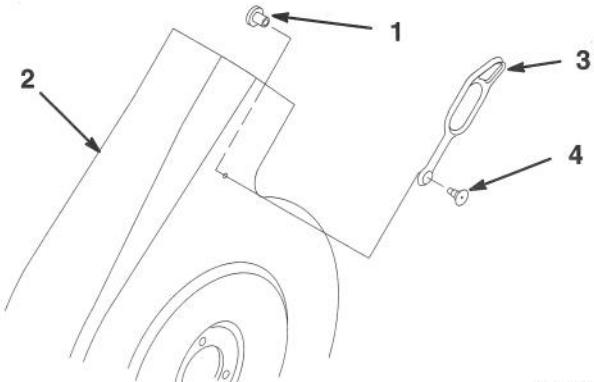

Figure 12
1. Attach the rubber latch to the outside of the blower housing with the flanged spacer and barbed fastener (Fig. 12).